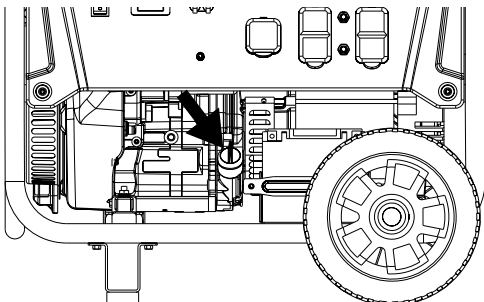

Figure 19 - Oil Fill Plug/Dipstick
5. Remove oil fill plug/dipstick (see Figure 19 below).